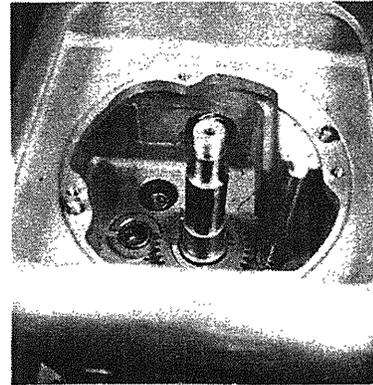

Fig. 3-27
- C. Install the planetary shaft assembly in the gear case (Fig. 3-27).